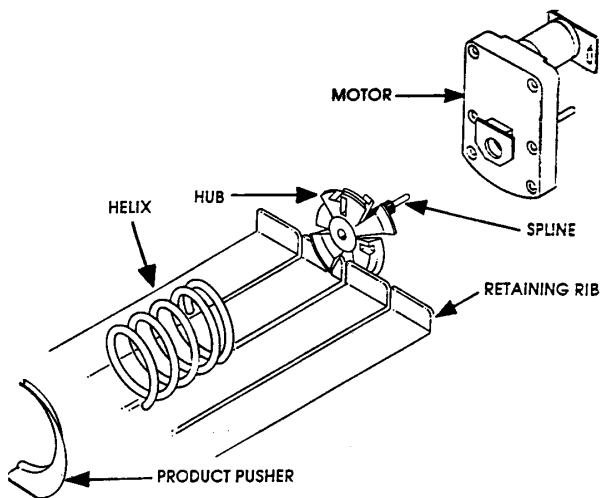

Figure 5
1. Remove the motor cover. See **Figure 5**.